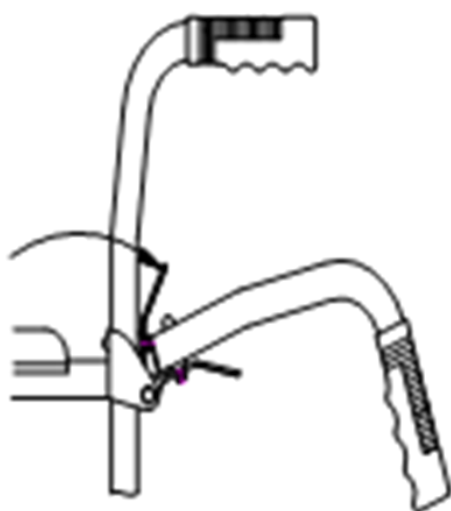

Figure 8
- If you buy a wheelchair with an E-shaped folding rear armrest, support the rear handle lightly with one hand when folding it, and pull the folding handle backwards with the other hand until the pin is released from the frame and the rear handle can be folded down; when refitting, simply rotate the handle upwards to the refitted state to lock and secure it. (See figure 8).